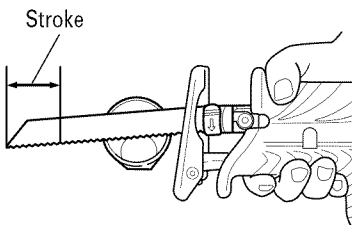
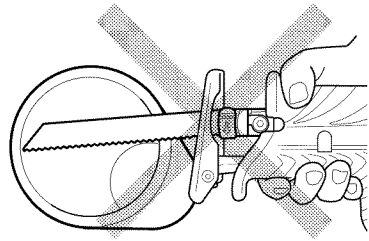
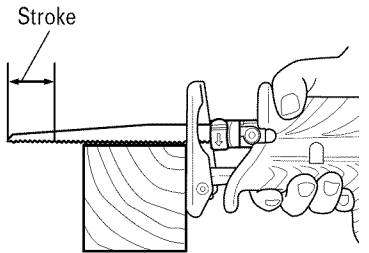
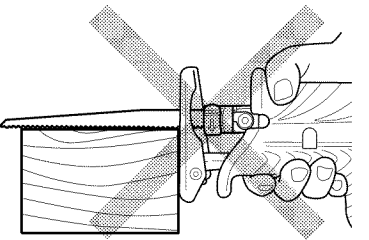

Fig. 16
Fig. 17
Fig. 18
Fig. 19
- Select a saw blade of the most appropriate length. Ideally, the length protruding from the base of the saw blade after subtracting the stroke should be larger than the material (see Fig. 16 and Fig. 18). If you cut a large pipe, large block of wood, etc., that exceeds the cutting capacity of a blade; there is a risk that the blade may contact with the inner wall of the pipe, wood, etc., resulting in damage. (Fig. 17, Fig. 19)